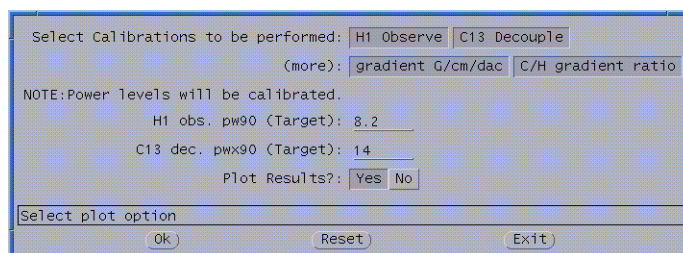

Figure 70. Calibration Target Values Using AutoTest Sample
8. In the calibration window (Figure 70), select the calibration(s) to be run, **H1 Observe**, **C13 Decouple**, **Gradient (g/cm/dac)**, and **C/H gradient ratio**.